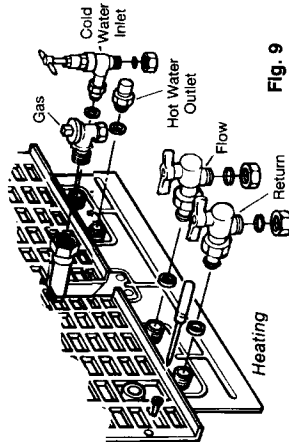

Fig. 9
Loosely fit (hand tight) the valves and fittings using the washers supplied (Fig 9)
**5.4.1** Figs. 9 and 11 show the locations of the fittings.